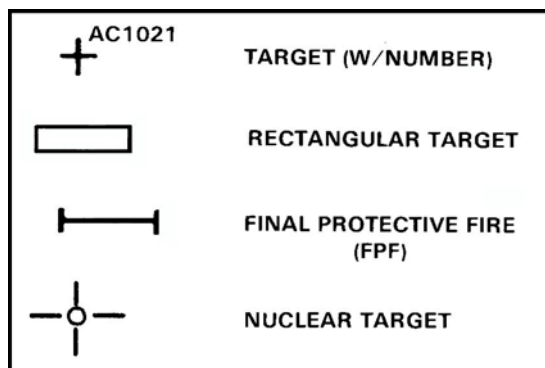

Figure 14. Indirect fire symbols.
m. Indirect fire symbols (Figure 14).